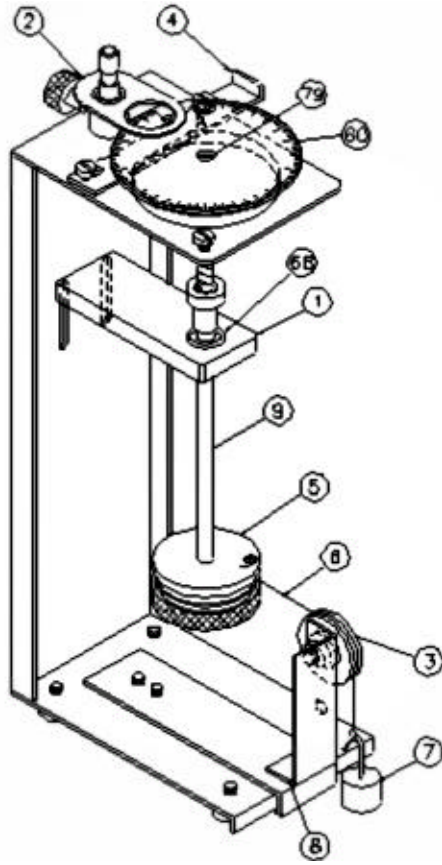
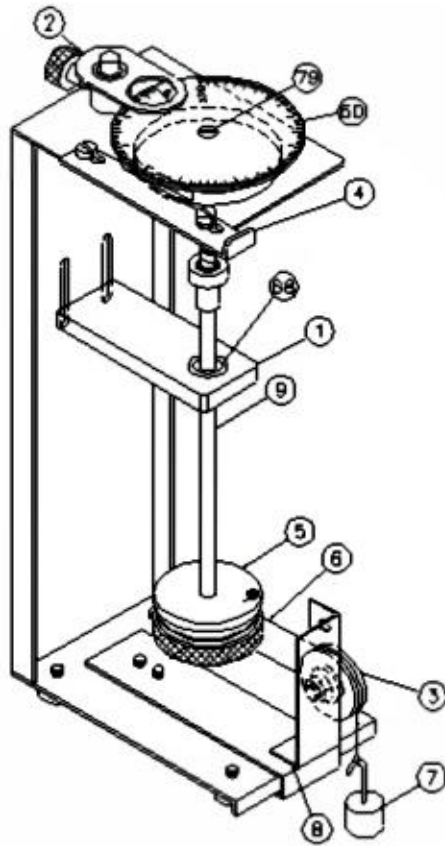

Fig. 2
Fig. 3
4. Screw Calibration spool [5] onto bob shaft, threads down, until it tight. Wind two to three turns of thread around the drum clockwise as viewed from the top of the spool. (Refer to Fig. 2 for Model 280 and Fig. 3 for Model 286) Route the thread over the sheave, and allow it to hang. Make sure the thread does not lap over itself on the spool.
Re-assemble the Calibration Fixture and set it up for the Model 280 torsion shaft assembly. (Refer to Fig. 2).
6. Screw Calibration spool [5] onto bob shaft, threads down, until it is tight. Wind two to three turns of thread around the drum clockwise as viewed from the top of the spool. (Refer to Fig. 2.) Route the thread over the sheave, and allow it to hang.
Re-assemble the Calibration Fixture and set it up for the Model 286 torsion shaft assembly. (Refer to Fig. 3).
3. Slide torsion shaft assembly into fixture from the top. Position torsion body hub into the hole in the top of the fixture and bearing [68] in the hole in the lower bearing support bar [1]. Rotate the torsion body to align the flat of the torsion body parallel with the fixture. Secure the torsion assembly into the fixture by locking the lock bar [4] over the flat of the torsion body. For the Model 286 the bar [4] is parallel with the fixture with its notched side holding the torsion body. (Refer to Fig. 3).
6. Screw Calibration spool [5] onto bob shaft, threads down, until it is tight. Wind two to three turns of thread around the drum clockwise as viewed from the top of the spool. (Refer to Fig. 3.) Route the thread over the sheave, and allow it to hang.